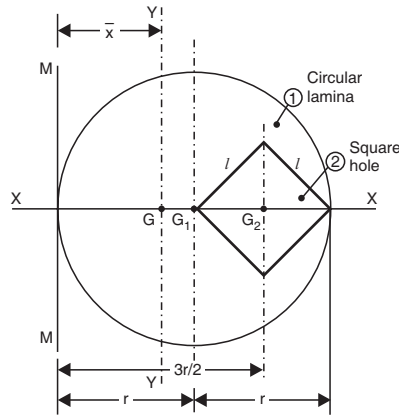

Fig. 4.30
**Sol.** Refer to Fig. 4.30. Since, the remaining body is symmetrical about X-axis, therefore,  $\bar{y} = 0$ .